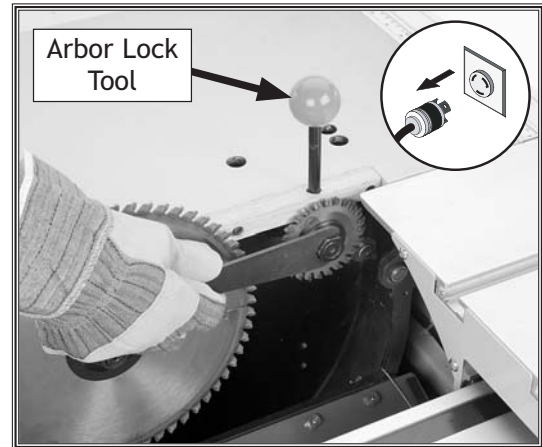

Figure 58. Removing the scoring blade.
5. To remove the scoring blade, insert the arbor lock tool in the table (**Figure 58**), rotate the scoring blade to seat the arbor lock tool, and use the arbor wrenches to remove the arbor nut and arbor flange.